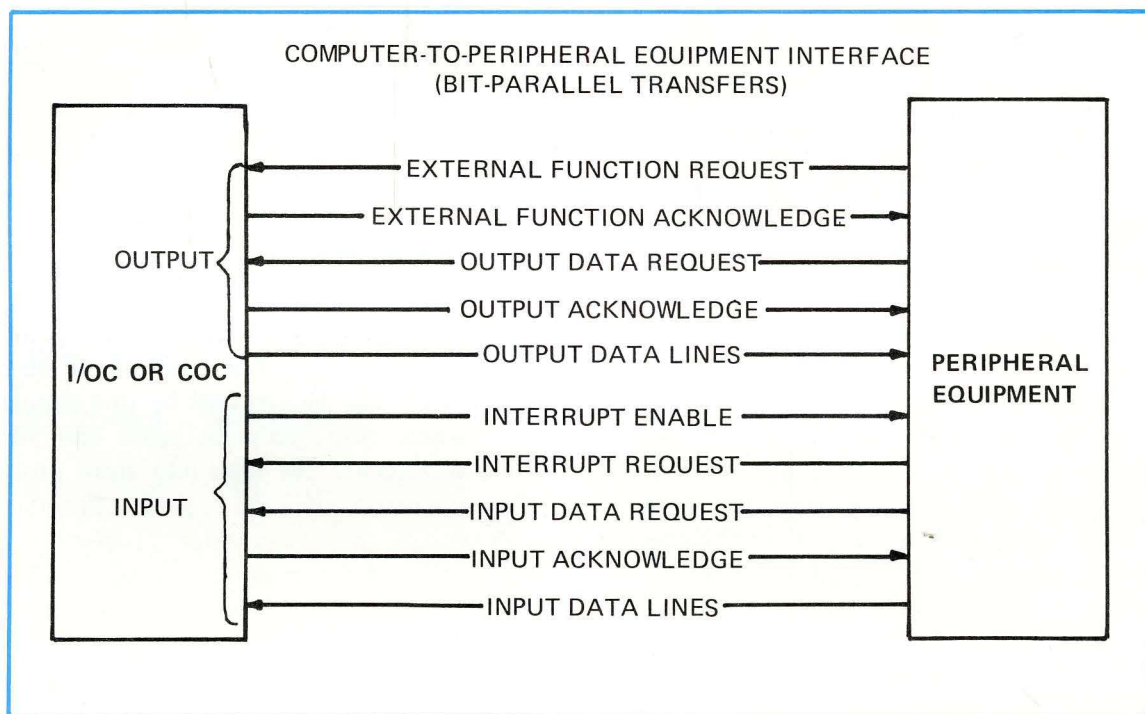

Figure 10. IOC - Peripheral Equipment Interface
- IOC – Peripheral equipment interface (see Figure 10)